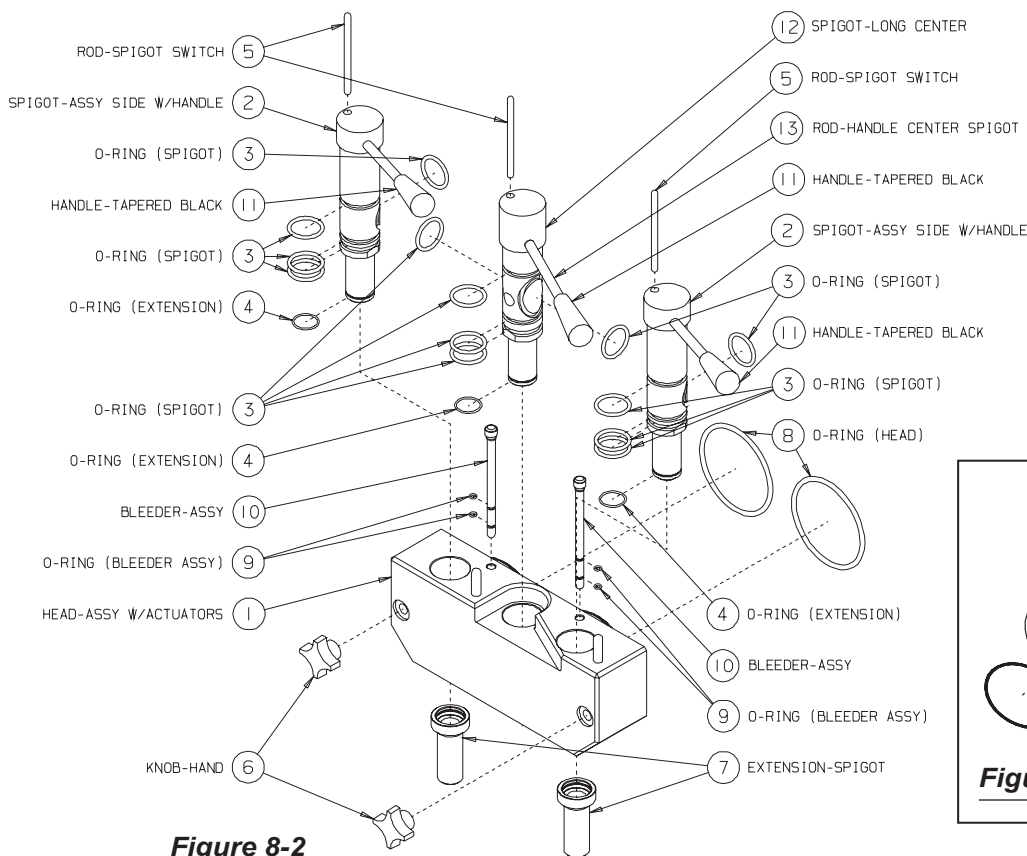

Figure 8-2
2. (See figure 8-2.) Remove the spigot rods (5) by lifting up out. Remove the hand knobs (6) and pull the dispensing head (1) straight out.